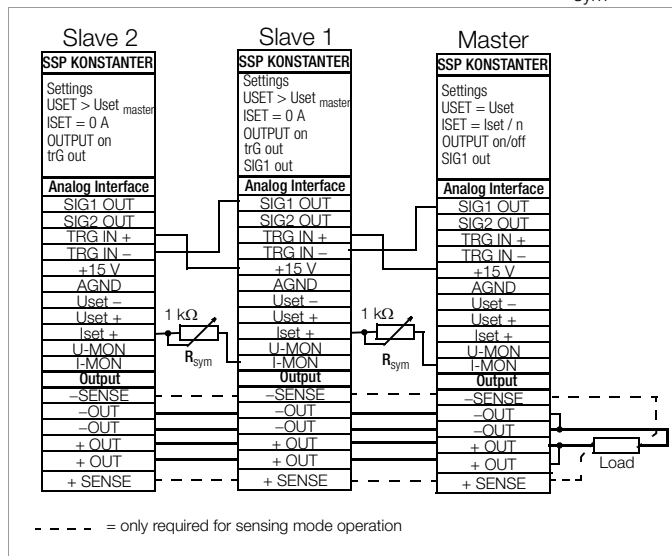

Figure 5.9.2 Wiring for Master-Slave Parallel Connection
- Connect **master** and **slave** devices as shown in Figure 5.9.2.